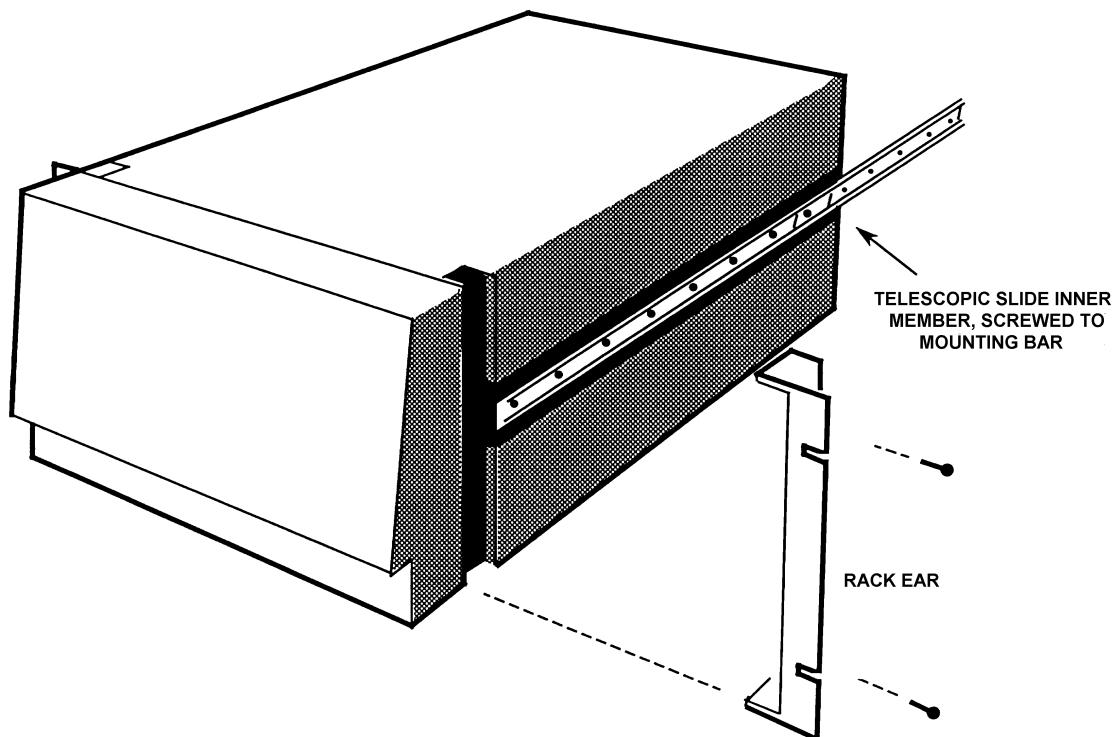

Figure 2.3 - Fitting rack ears and telescopic slide inner members
2. Fit the following items to the unit, as shown in Fig. 2.3: